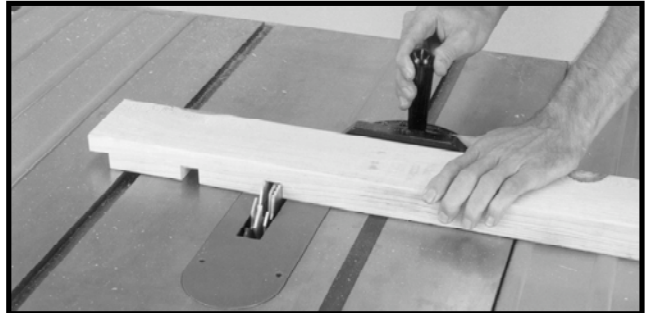

Fig. 56
3. Fig. 56, shows a typical dado operation using the miter gage as a guide.